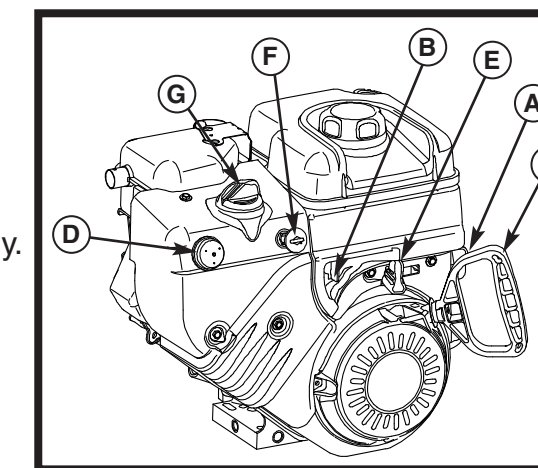

Figure 14
- Turn the fuel valve (B, Figure 14) to the ON position.
- Insert the engine key (F) into the engine key slot and push in fully.
- Move the throttle lever (E) all the way to the right, to the FAST position.
- Turn the choke knob (G) fully counter clockwise if engine is cold. (Do not choke a warm engine.)
- Push the primer button (D) two times if engine is cold. (Do not prime a warm engine.)
- Manual Start: Pull starter handle (C) rapidly to start the engine. Do not allow the starter handle to snap back—let the starter rope rewind slowly—while keeping a firm grip on the starter handle.
- As the engine starts and begins to operate evenly, turn the choke knob (G) slowly clockwise to the RUN position, and set the Throttle Lever to SLOW. If the engine falters, turn the choke knob counter-clockwise until the engine runs smoothly, and let it run briefly before returning the choke to the RUN position.